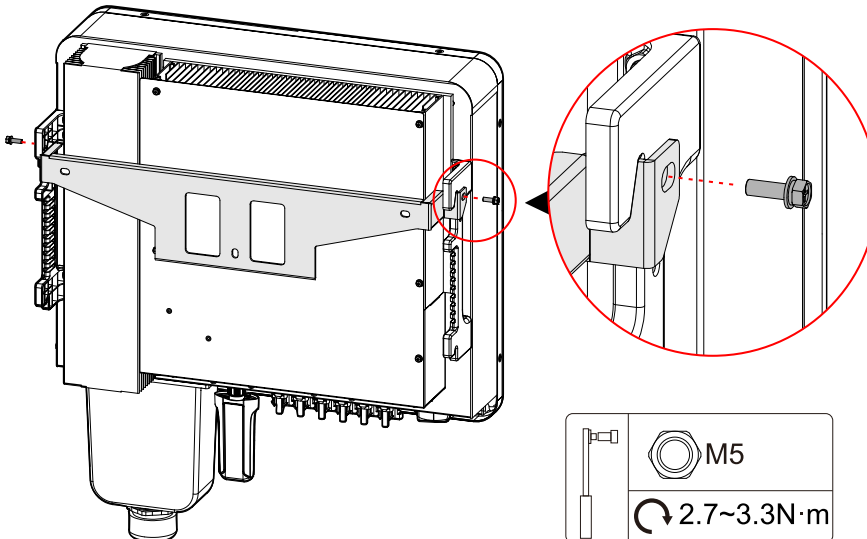

Figure3-12 Fasten the inverter
Step 6 Fasten the inverter to the installation holder by the equipped stainless steel combination bolt M5*16 and then lock it, as shown in Figure3-12.